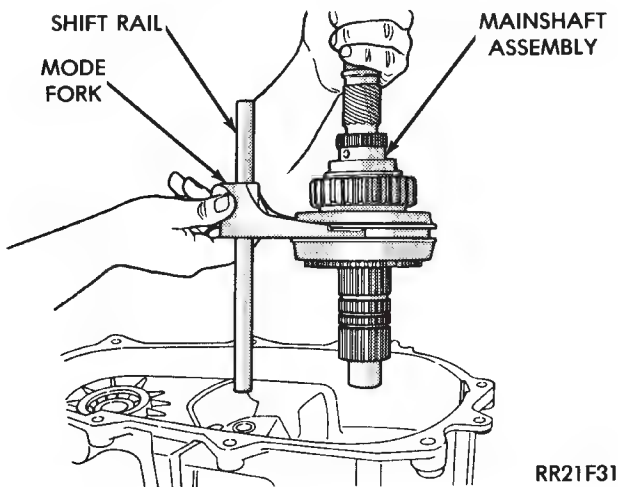

Fig. 61 Installing Mainshaft And Mode Fork Assembly
(3) Engage mode fork in sleeve (Fig. 61).
(4) Install mode fork-mainshaft assembly in case (Fig. 61). Be sure the mode fork rail is seated in case bore.
(5) Lift mainshaft upward about 2.54 cm (1-inch).
(6) Position front output shaft in drive chain.